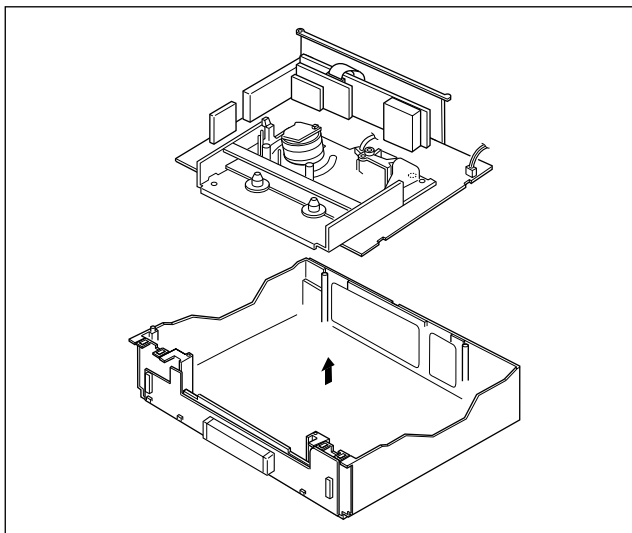

Fig. 1-4-2
- (8) Remove the Main board and Mechanism assemblies together while holding the edge of the Main board assembly. At this stage be careful of the power cord and prongs of the jacks on the back side. (Refer to Fig. 1-4-2.)